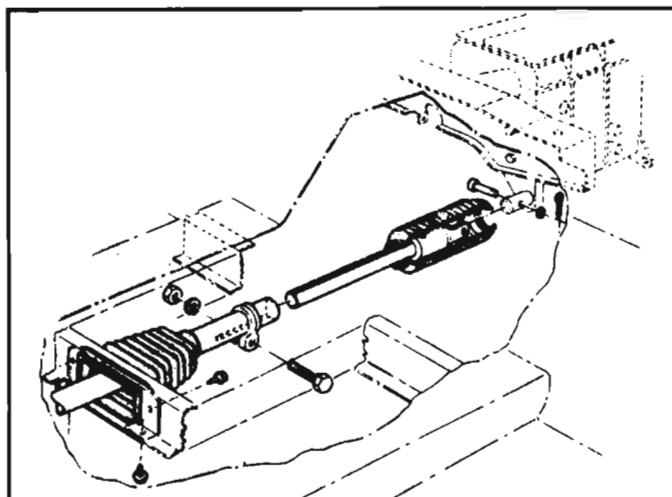

Fig. 6D-3—Tunnel Shaft Components—Exploded
- With tunnel cover removed, fold back rubber boot (fig. 6D-3) covering control shaft oil seal at transmission end of shaft sufficiently to expose the connecting pin.